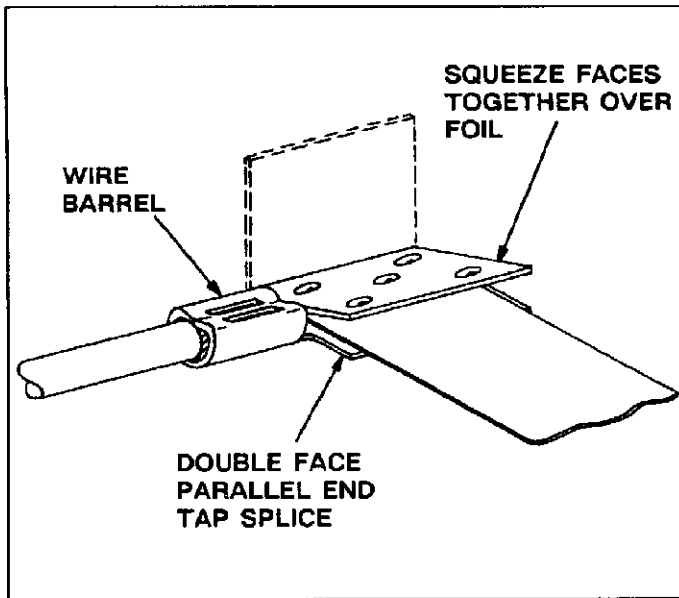

Fig. I-3
1. Place foil between faces of splice and press faces together manually. See Figure I-3.